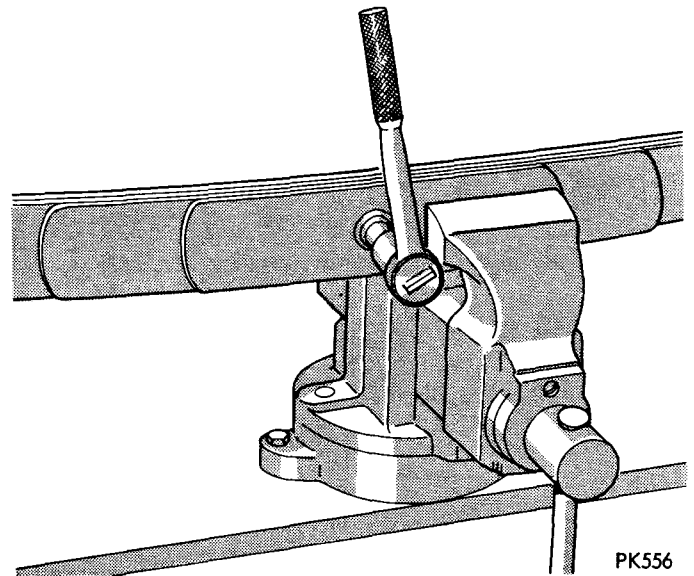

Fig. 13—Disassembling Spring Assembly
(1) Clamp spring in a vise as shown in Fig. 13. Loosen or remove spring leaf alignment clips and remove center bolt.
(2) Insert long drift in center bolt hole and release vise slowly.
(3) Remove assembly from vise and replace broken leaf.
(4) Place spring assembly in vise, slowly tighten vise while holding spring leaves in alignment with drift.
(5) Remove drift and install new center bolt (Fig. 13).